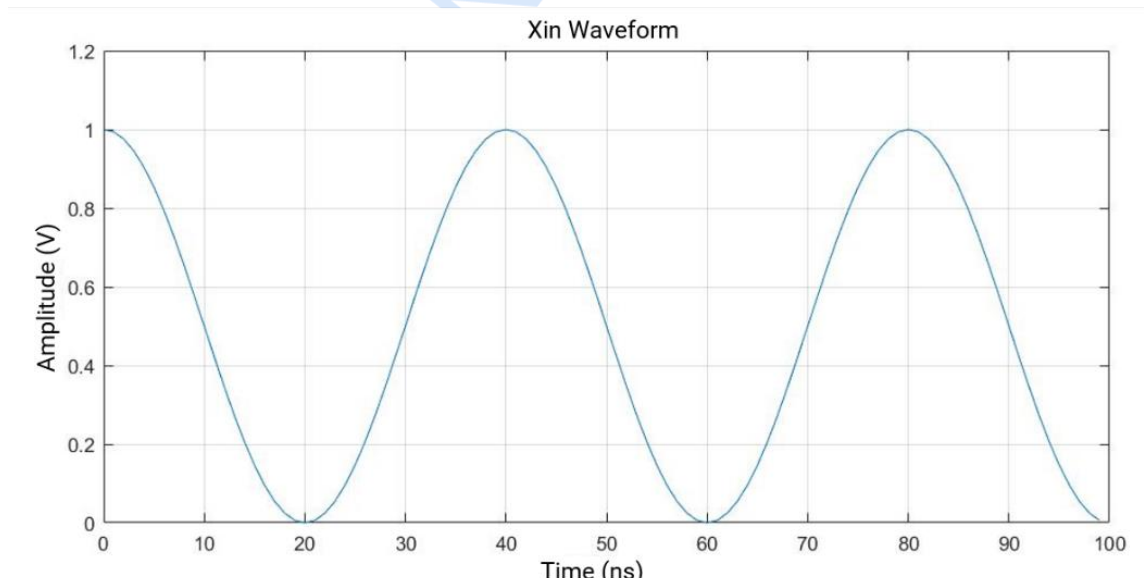

Figure 4-10 Xin waveform of the crystal oscillator
1. See waveform at Xin pin in Figure 4-10.